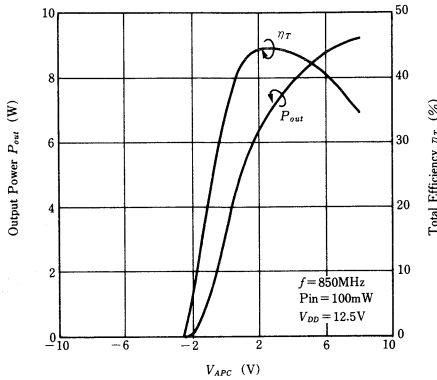

Fig. 3. In the case of plus and minus power supply (fixed input power of 100 mW)
- i) To have APC power supply which has both plus and minus polarity. (Please refer to Fig. 3).